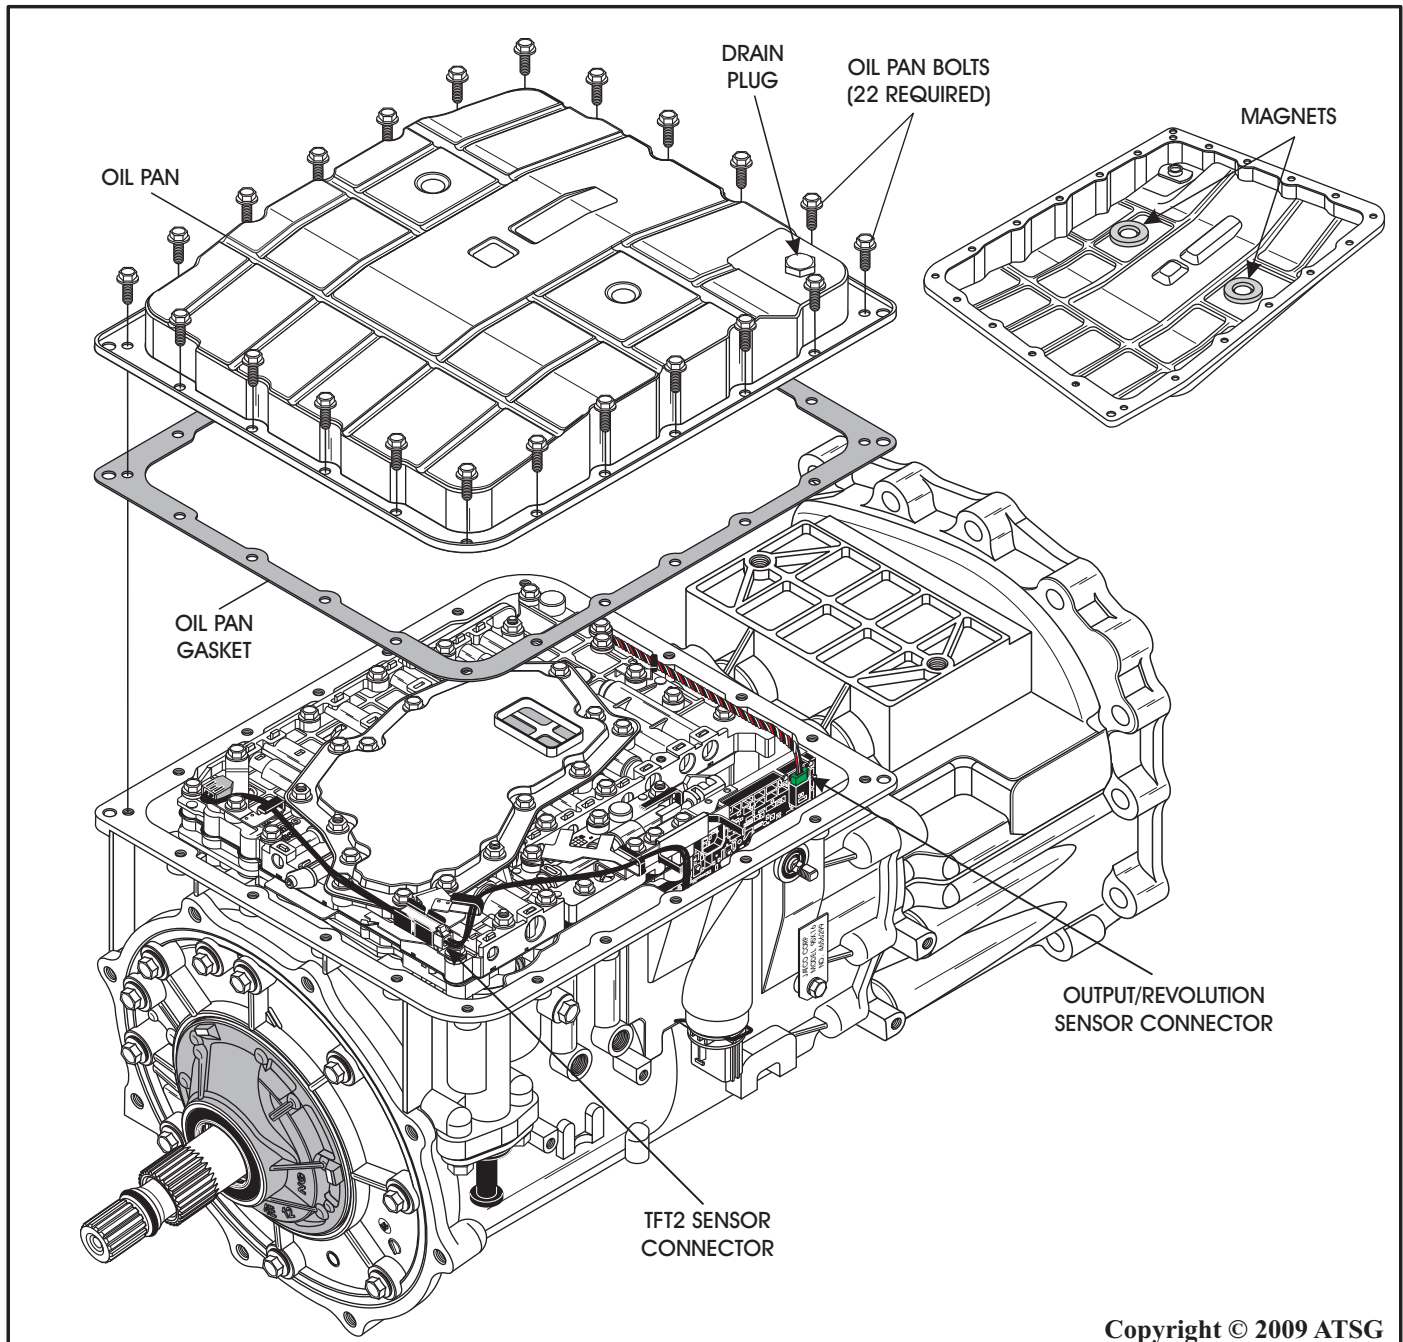

Figure 236
92. Connect the output/revolution speed sensor to the PNP switch, as shown in Figure 236.
93. Connect the transmission fluid temperature 2 connector, as shown in Figure 236.
94. Securely fasten TFT2 sensor wire and output/revolution sensor wire in clips, as shown in Figure 236.
96. Install new pan gasket, as shown in Figure 236.
97. Install the two magnets into oil pan, as shown in Figure 236.
98. Install the oil pan onto transmission, as shown in Figure 236.
Caution: Oil pan can be installed backwards. Install with drain plug to rear, as shown in Figure 236.